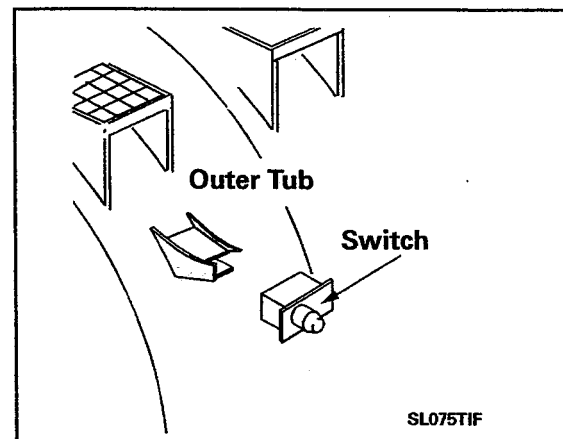

Figure 2-55
3. The switch is located on the upper right hand side of the outer tub assembly, directly behind the right upper front suspension spring (*Figure 2-55*).